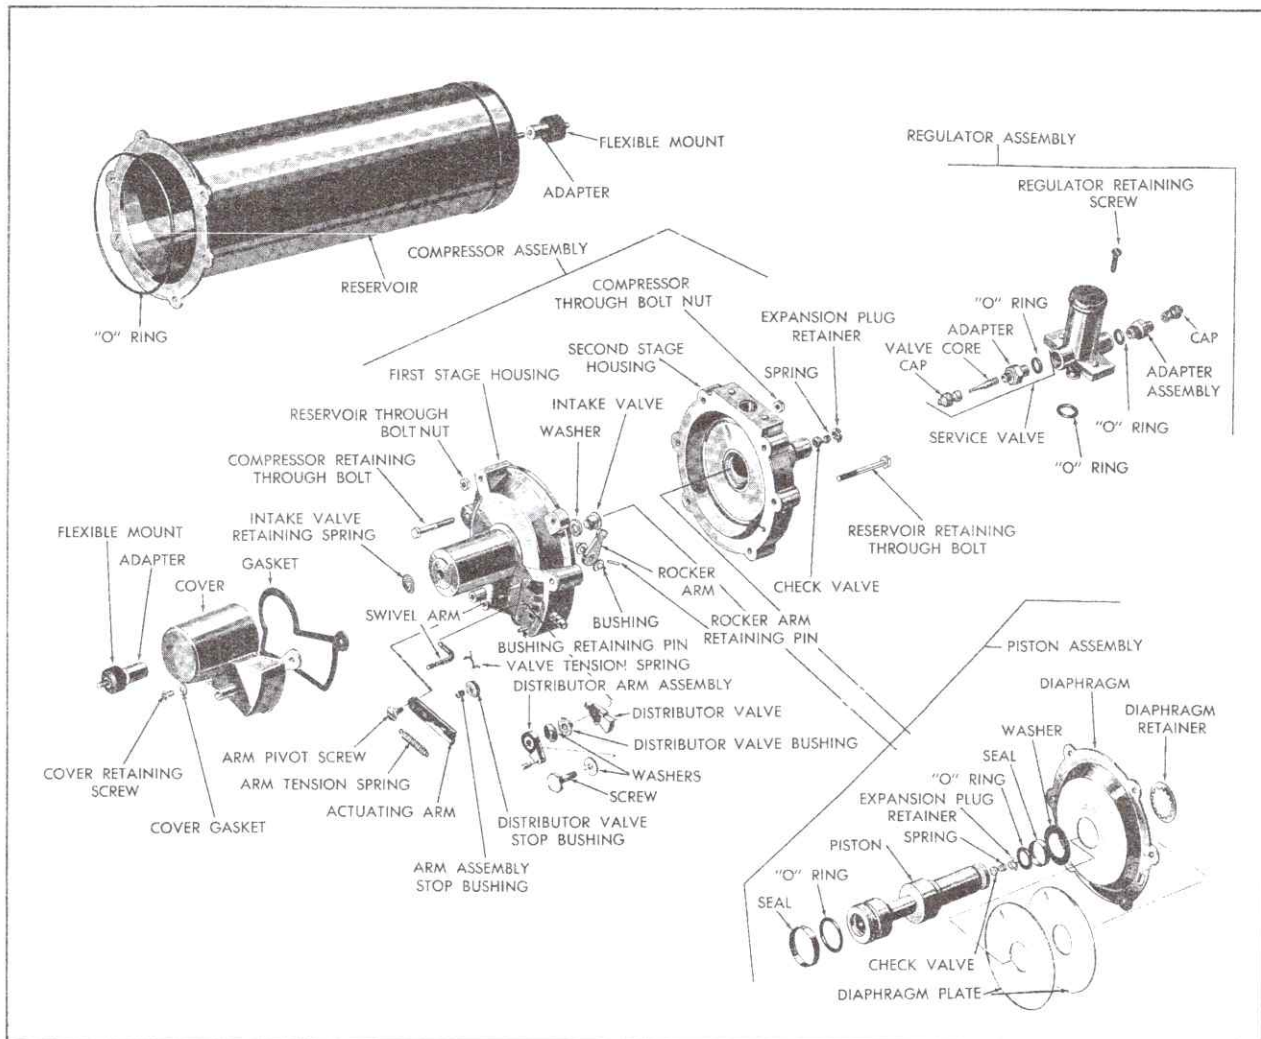

Fig. 4-10 Compressor Assembly Disassembled
### 13. Disassembling Compressor, Reservoir and Regulator into Major Components (Fig. 4-10)
1. Install new washer, old plate, new diaphragm with outer lip toward second stage side, Fig. 4-10, and second plate. Plates should be installed so that lip on both plates faces outboard from diaphragm.